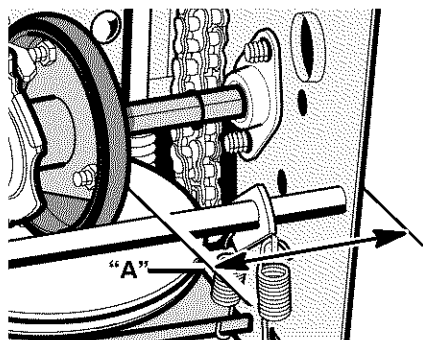

Figure 49
7. Note the position of the **friction wheel** (see Figure 49). The correct distance "A" from the right side of the **friction wheel** to the outside of the motorbox is as follows:
3. Move the **friction wheel** to the correct position (see Figure 49).